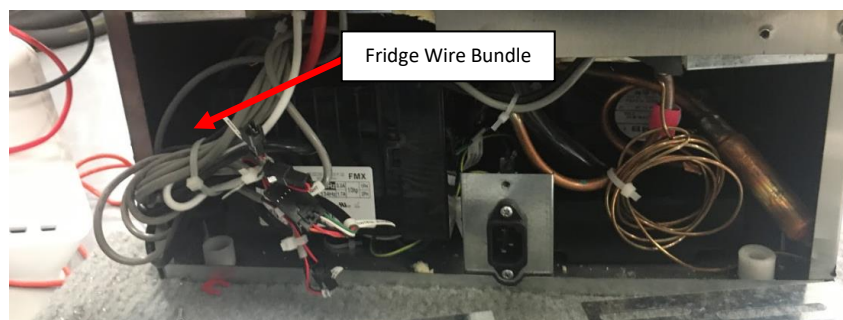

Figure 118: P-Clamp mounted with screw.
- i. Locate the existing UI Harness at the NITCOM Fridge Rear. It can be found in the bundle of wires next to the inverter on the Left of the Fridge as seen from the rear of the Fridge. **See Figure 118.**